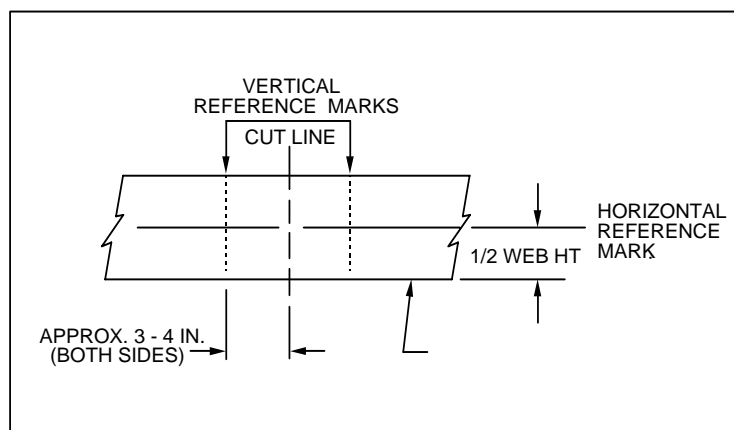
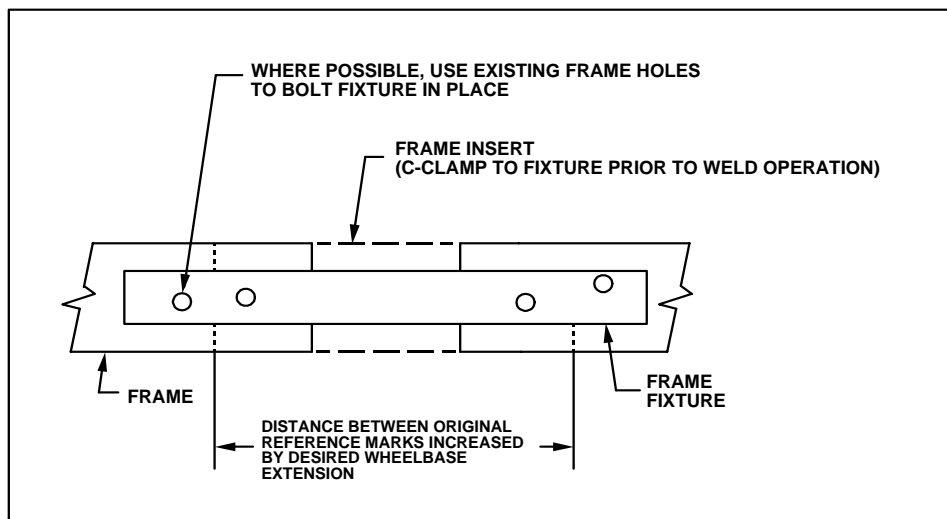

FIGURE 4
FIGURE 6
- Scribe or mark the frame for cutting (Figure 4). All dimensions for gauging or fixturing should be recorded at this time.
- Fixture and clamp the insert to ensure correct alignment (Figure 6). Dimensional checks to the predetermined reference marks (Figure 4) should be used to prevent any possible error.